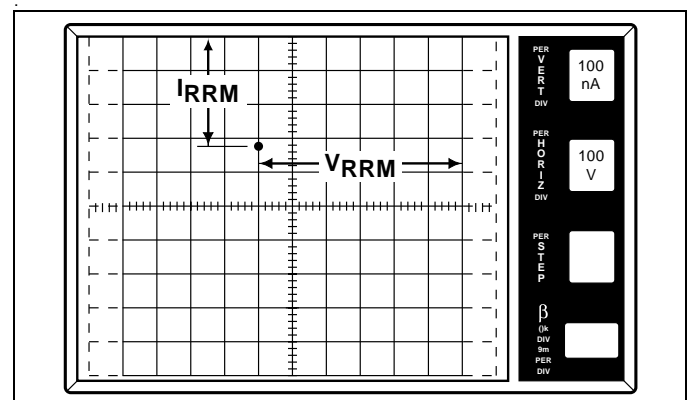

Figure 19.4  $I_{RRM}$  is equal to 340nA at  $V_{RRM}$  equal to 600 volts
2. Repeat Steps 1 and 2 ( $V_{DRM}$ ,  $I_{DRM}$ ) except substitute  $V_{RRM}$  value for  $V_{DRM}$ . (See Figure 19.4.)